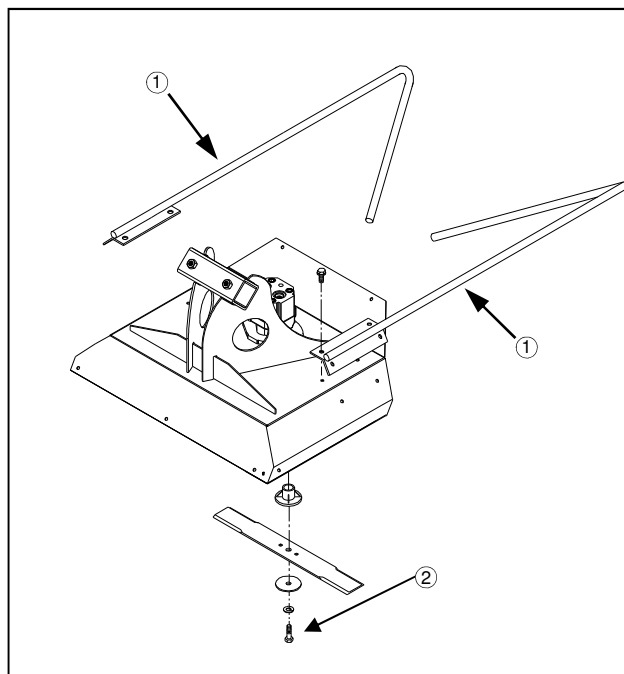

FIG 4.21
2. Install the stalk guides to the cutter head assembly (fig. 4.21, item 1). Refer to the Hagie 204 Parts Manual for the proper hardware.
3. Check and tighten, if necessary, the retaining bolt (fig 4.21, item 2).